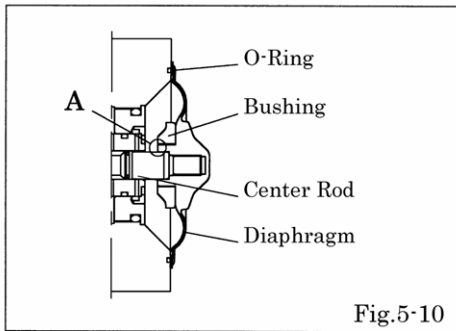

Fig.5-10
- Attach the bushing onto the diaphragm. [Fig.5-10]
- Attach the diaphragm by turning it until its level difference with the center rod of the section A becomes even. [Fig.5-10]